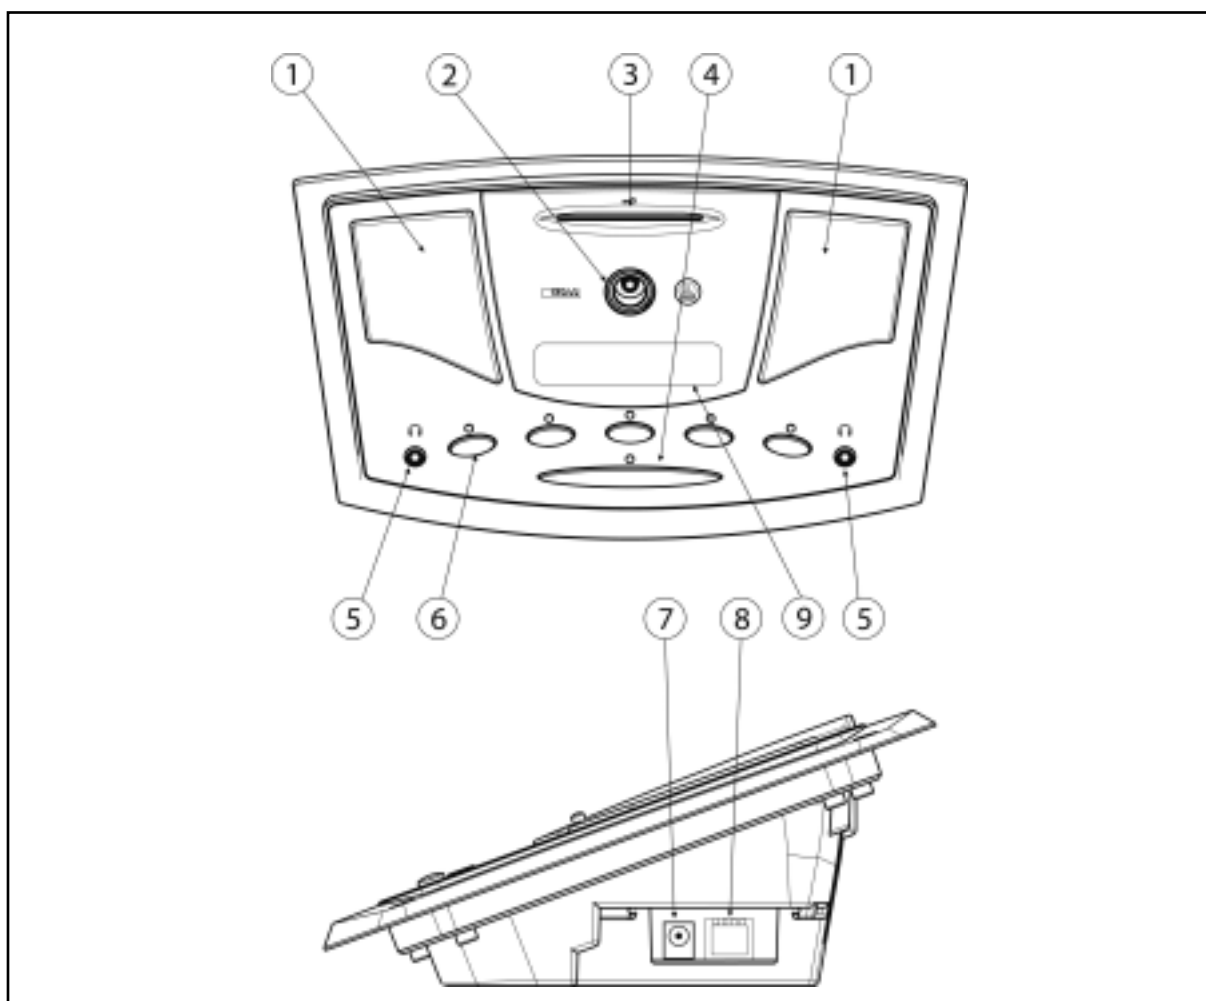

Fig. 5: CS5 VU control panel, inputs and outputs.
- Refer to fig. 5 on page 21.
- Fig. 5, p. 21.
2. Screw the gooseneck into the microphone input (2).